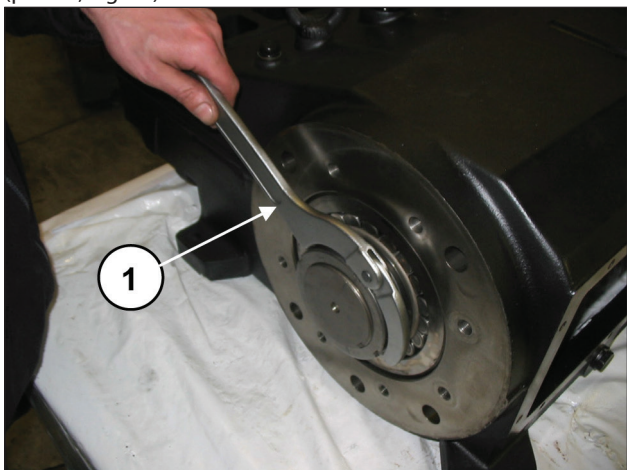
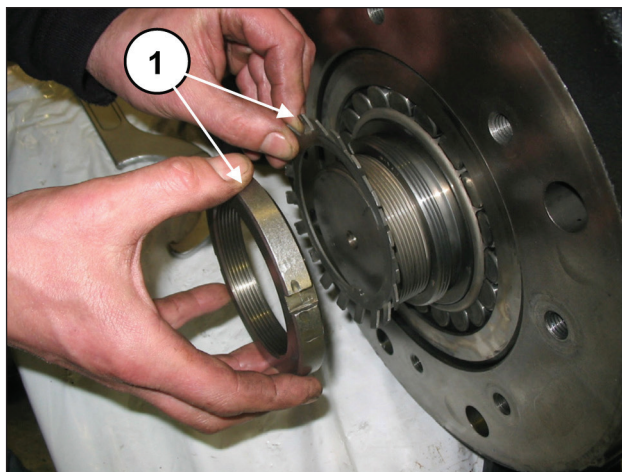

Fig. 18
Fig. 19
Using a suitable wrench, unscrew the locking ring nut (pos. ①, Fig. 18) then remove the ring nut and the safety washer (pos. ①, Fig. 19).